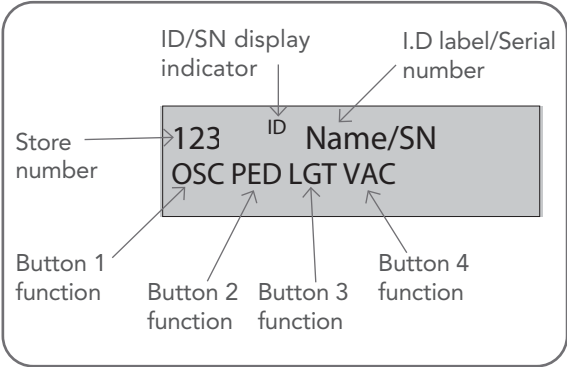

Fig 9.1
The **GDO-10V3L2** can store up to five hundred and eleven (511) transmitters in its memory. Each transmitter can be allocated an alpha-numeric ID label up to eleven (11) characters in length and each button can be assigned to one of several control functions. The settings for a transmitter are represented in **(Fig. 9.1)**. It shows the transmitter's store number, ID label or serial number and the functions assigned to each of its four buttons. To toggle between ID/SN display, press UP/DOWN with the cursor on the ID/SN indicator. The procedures below code, delete, replace, edit and copy transmitter records.